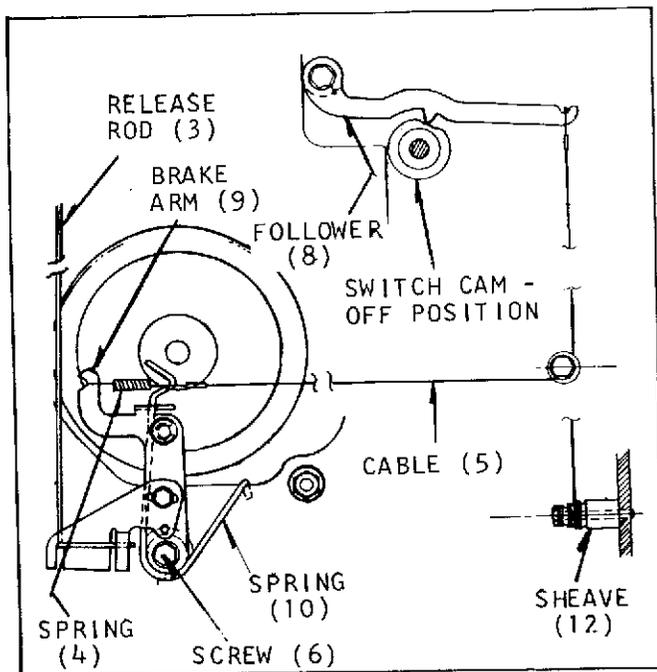

Figure F-1. Brake Component Installation
a. If removed, reassemble the spacers (11) and cable sheave (12) into the tapped holes in the projector mainplate. The location of these parts and the assembled positions of the brake components are shown in Figure F-1.
b. Assemble the brake arm spring (10) to the hub of the brake arm assembly (9) and secure the arm assembly to the lower spacer with a screw (6) and washer (7).
d. Assemble "V" end of tension spring (4) to one end of cable (5). Rotate switch cam to "project" position and engage other end of cable over notch in cam follower (8). Dress cable down around center groove of cable sheave (12); then to the left, stretching spring (4) just enough to engage upper notch in brake arm (9). Tension to effect proper brake release can be adjusted by engaging cable in outer or inner grooves of sheave.
e. Connect the lower arm of the brake release rod (3) to the brake arm assembly (9) as shown in Figure F-1. Assemble the upper loop of the rod and the torsion spring (2) to the protruding end of the lamp interlock switch actuating pin (Figure G) and retain these parts with the retaining ring (1).